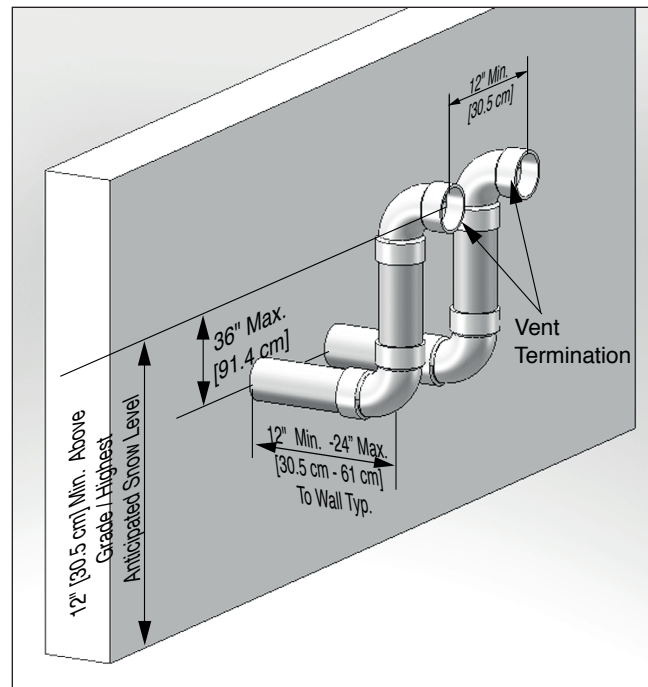

Fig. 20 - Category IV - Sidewall Termination of Multiple INSTINCT Boilers
2. Each vent termination must be a minimum 12" [30.5 cm] from the adjacent termination for installations in the U.S. as shown in *Fig. 20* below. For installations in Canada, provide clearances as required by CAN/CSA B149.1.